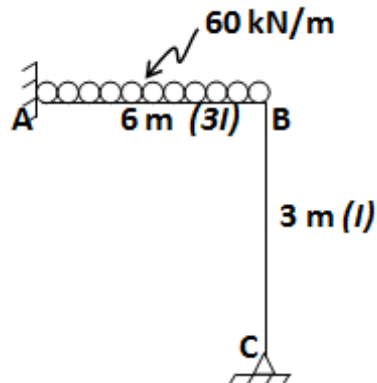

Fig. 8
7. Analyse the frame shown in Fig. 8 by displacement matrix method. (6)